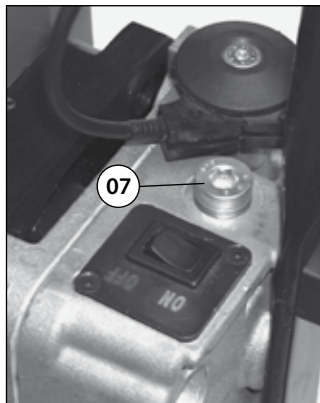

FIG. 25
(Ref. to Figs. 25 and 25a)
13.1.1) **Topping up oil** (Ref. to Figs. 25 and 25a)